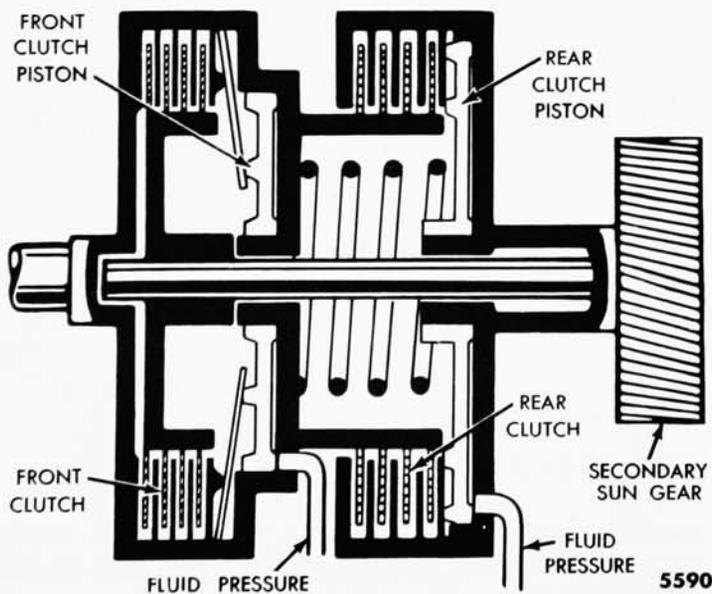

Fig. 15—Rear Clutch
(2) **REAR CLUTCH.** The rear clutch consists of a rear clutch drum, rear clutch piston, release spring, four steel clutch driven plates, and four clutch drive plates with composition facings (fig. 15). The rear clutch drive plates are connected to the front clutch drum and the
splined to the front clutch drum and the driven plates are connected to the secondary sun gear. When the rear clutch is applied, the secondary sun gear is driven in reverse and in the drive range high ratio. The piston is returned to the released position by the rear clutch release spring (fig. 15).